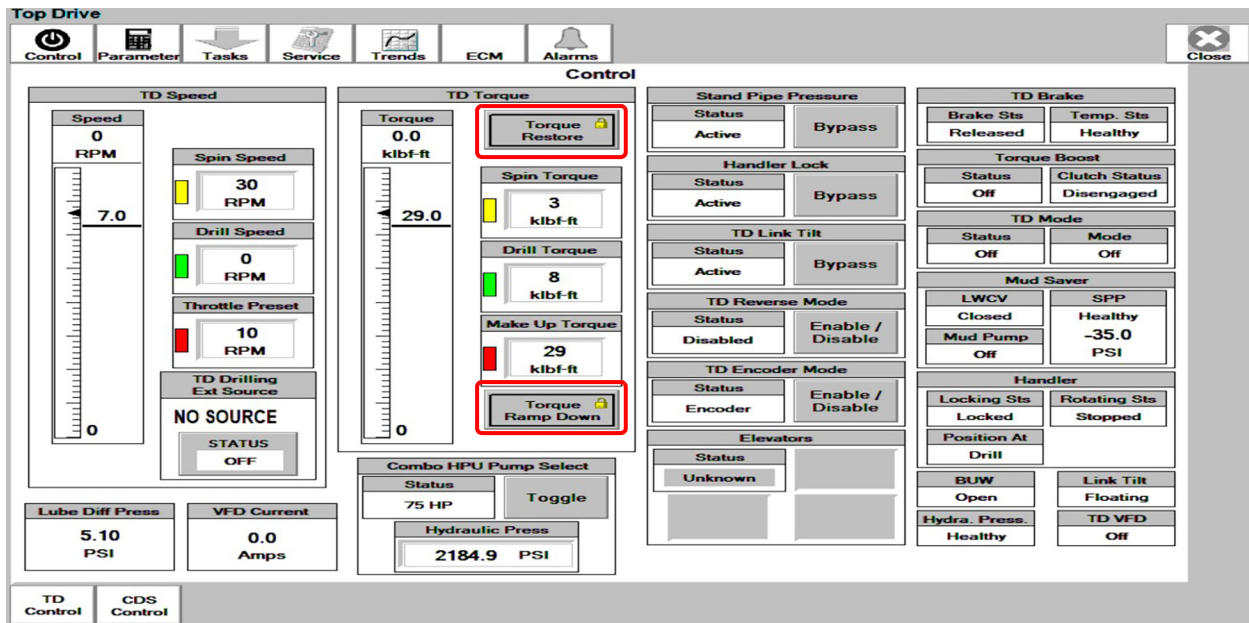
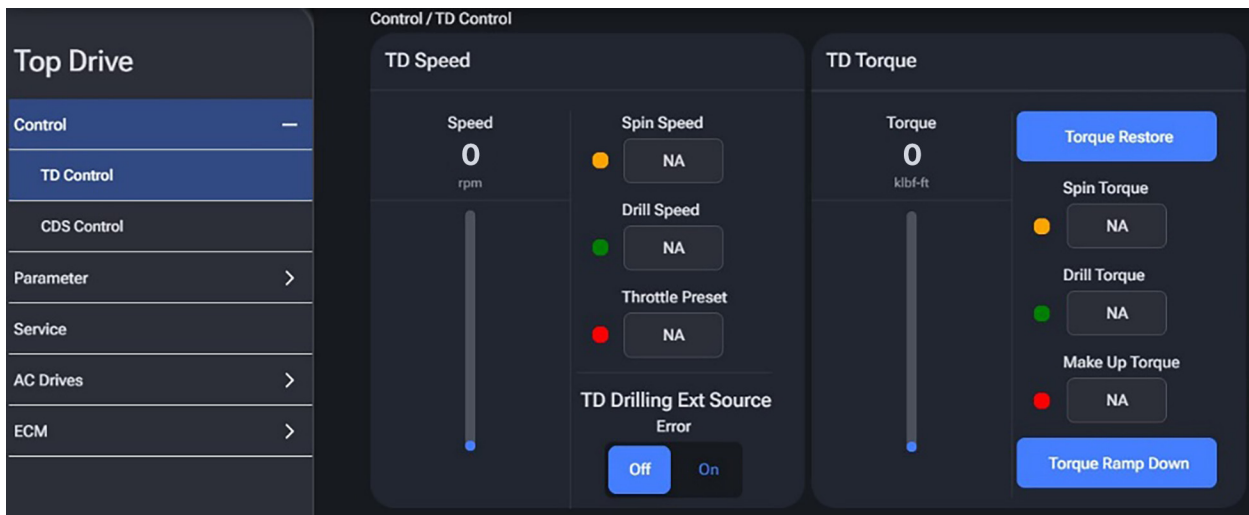

Figure 1: Legacy Top Drive Control Screen
Figure 2: Top Drive Control Screen
- a. On the Top Drive Control screen, after pressing the **Torque Ramp Down** button, observe the trapped torque value in the casing string until it reaches zero. See Figure 1 and Figure 2 on page 2.
- a. Once the trapped torque is fully eliminated, press the **Torque Restore** button. See Figure 1 and Figure 2 on page 2.